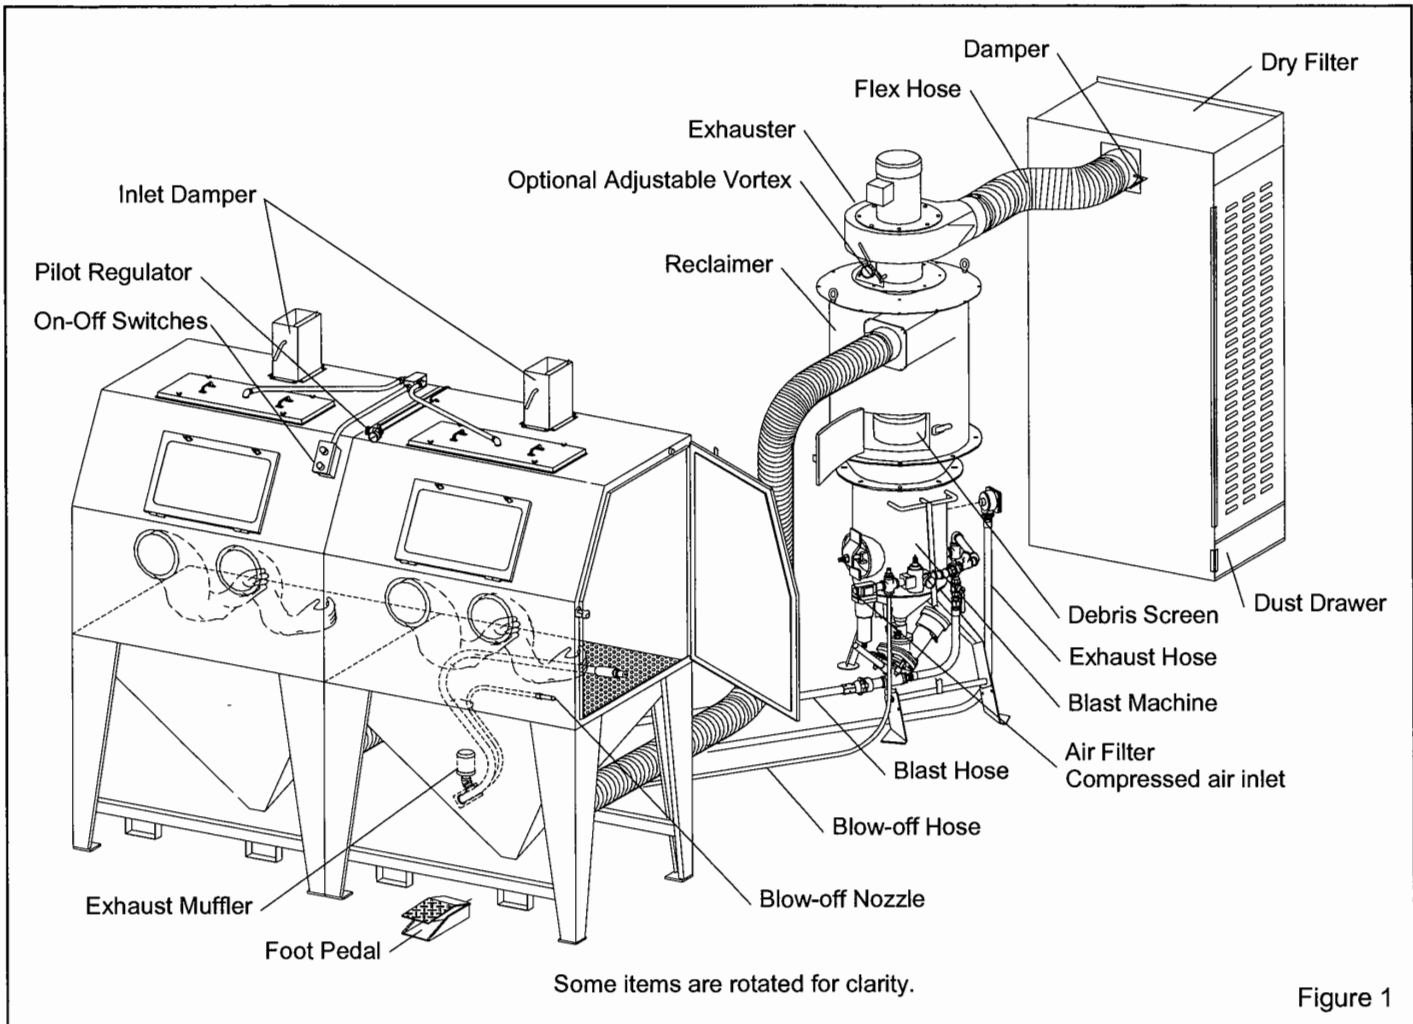
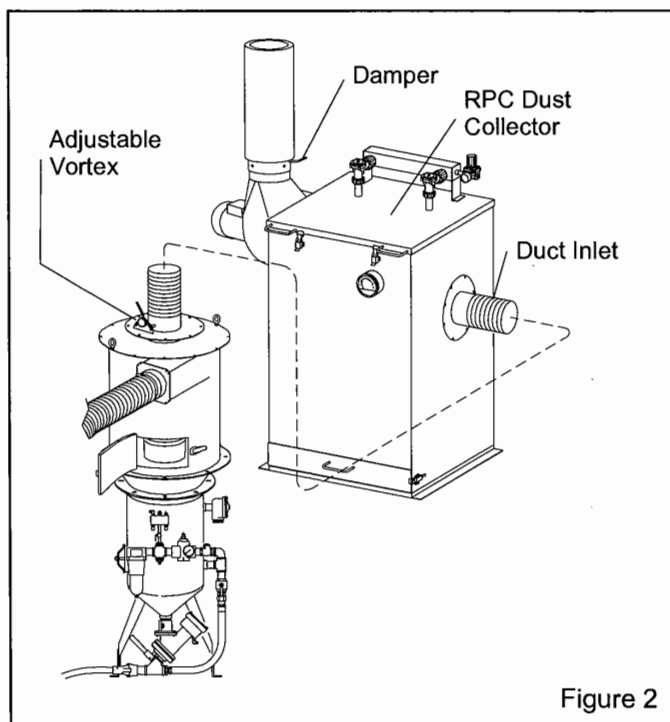
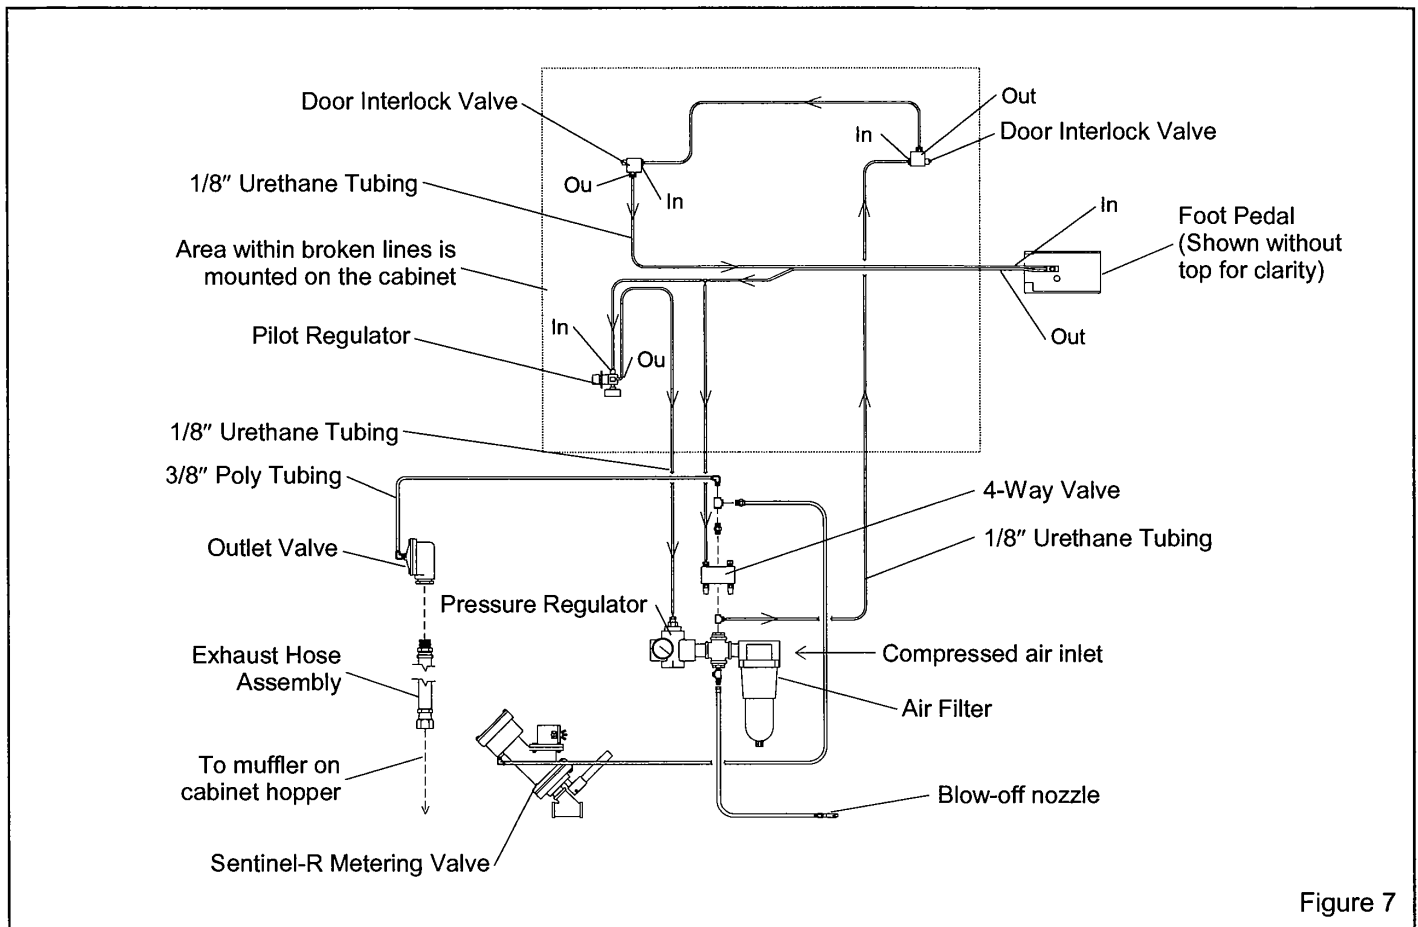

Figure 1
Figure 2
Figure 7
See Figure 1 for arrangement of components with a dry filter. Figure 2 shows the arrangement with a reverse-pulse (RPC) dust collector.
2.1.1 See Figure 1 (and Figure 2 for optional reverse-pulse collector) for the general arrangement and Figure 7 for the control line schematic. Select a location where compressed air and electrical service are available. The cabinet location must comply with OSHA and local safety codes. Allow for full access to all doors and service areas, and for efficient handling of large parts. Provide enough clearance in front of the dust collector to remove the dust drawer without tipping. Ideally, locate the blast machine directly behind the cabinet with the blast hose connection toward the cabinet. The reclaimer may be rotated on the blast machine to enable hose connections with as few bends as possible. Determine the best location, and position all units before final assembly.
2.5.1 Attach the 1/2" blow-off hose coming from the cabinet hopper, to the compatible fitting between the air filter and pressure regulator. See the schematic in Figure 7.
2.8.1 Uncoil the 1/8" urethane control tubing. The end of each tubing is numbered 1, 2 or 3. Connect the tubing to the adaptor with the corresponding number on the pressure regulator, piping, and 4-way air valve. Check the schematic in Figure 7 to confirm the connections.